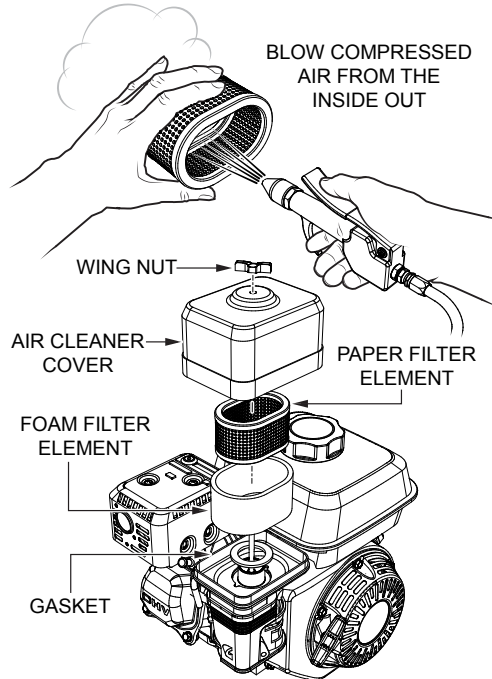

Figure 39. Engine Air Cleaner
1. Remove the air cleaner cover and foam filter element as shown in Figure 39.
2. To remove dirt, tap the paper filter element (Figure 39) several times on a hard surface, or blow compressed air not exceeding 30 psi (207 kPa, 2.1 kgf/cm2) through the filter element from the air cleaner case side. **NEVER** brush off dirt. Brushing will force dirt into the fibers. Replace the paper filter element if it is excessively dirty.